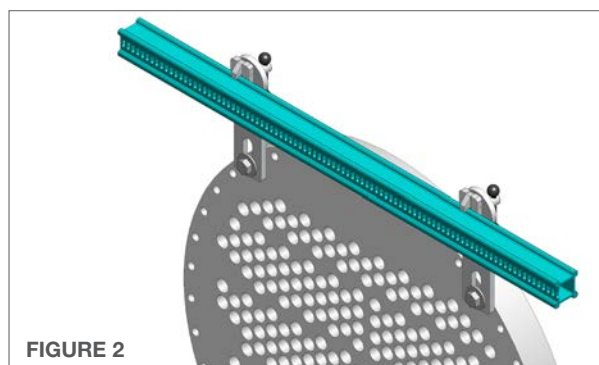

FIGURE 2
2. Insert the **Top Rail (slots facing out)** into the upper mounting brackets. If the rail is not closely aligned with the tube rows, loosen one of the upper mounting brackets and adjust until the top rail is parallel with the horizontal tube rows. Tighten the clamps securing the rail to the mounting brackets, and ensure upper mounting brackets are securely clamped or bolted to the tube bundle flange. **(Figure 2)**